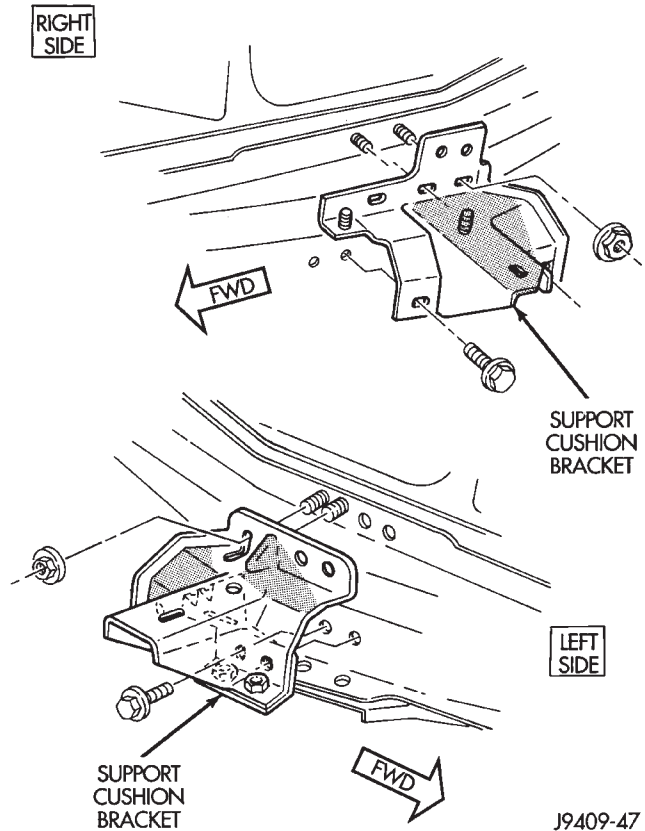

Fig. 24 Support Cushion Bracket
(2) If the support cushion bracket was removed, position the bracket onto the lower front sill (Fig. 24). Install support cushion bracket bolts and nuts.